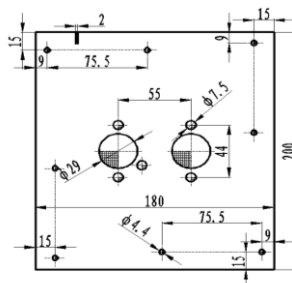

Fig.10
4.2.4 If the thickness of the installation panel < 1.5mm a mounting plate may need (Fig.10).